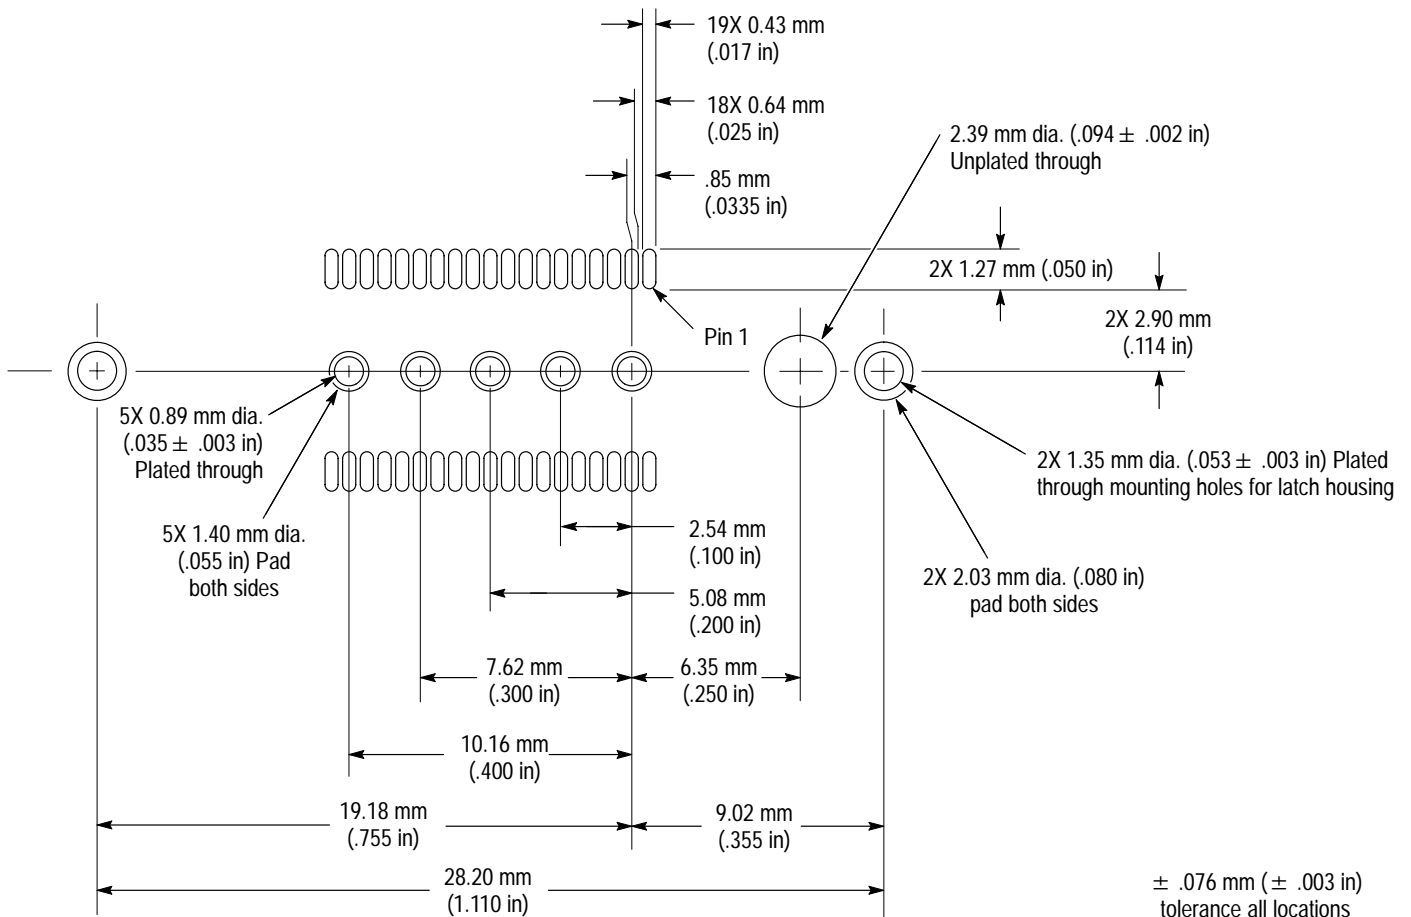
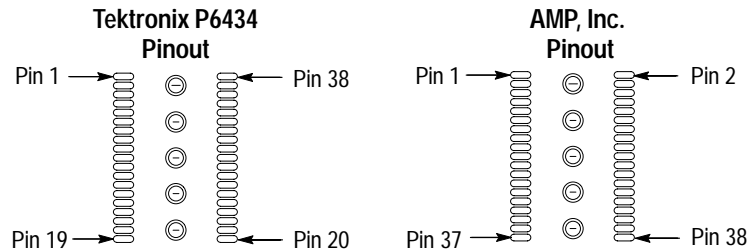

Figure 9: Surface-mounted connector layout (component side)
Figure 11: Mictor connector pin numbering sequences (component side)
Each compatible Mictor connector has 43 pins; pins 39 through 43 are grounded. Pins 1, 2, 37, and 38 are open. Figure 9 shows the positions and spacing between the pins, the keyhole, and the latch housing mounting holes of a surface-mounted connector. Figure 11 on page 14 shows the pin assignments.
**NOTE.** Be aware of the difference in the pin numbering sequence between the P6434 probe and the AMP, Inc. Mictor connectors. Figure 11 on page 14 illustrates the differences.
Figure 11 shows the pin assignments for the surface-mounted connector. Pin assignments are the same for the straddle-mounted connector. Note the difference between the Tektronix P6434 pinout and the Mictor connector pinout.
AMP, Inc. uses an odd side-even side pin assignment. Pin 1 is located at the top left, and pin 3 is located directly below it. Pin 2 is located on the top right, and pin 4 is located directly below it. Refer to Figure 11 on page 14 for the pin assignments.